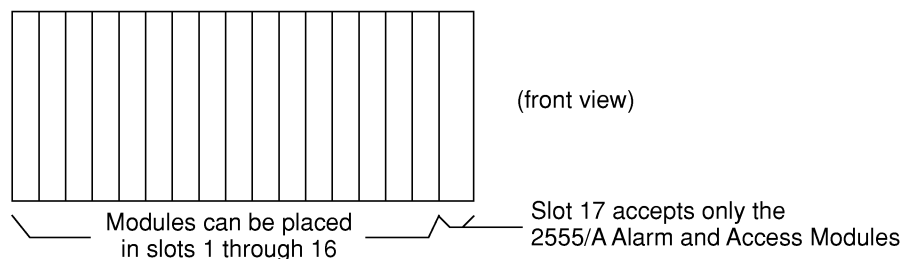

Figure 3-1 Module Placement in the 255D
- 3.4 Any 255 or 257 Module can be installed in slots 1 through 16 of the 255D Mounting Assembly (see Figure 3-1 for module locations).